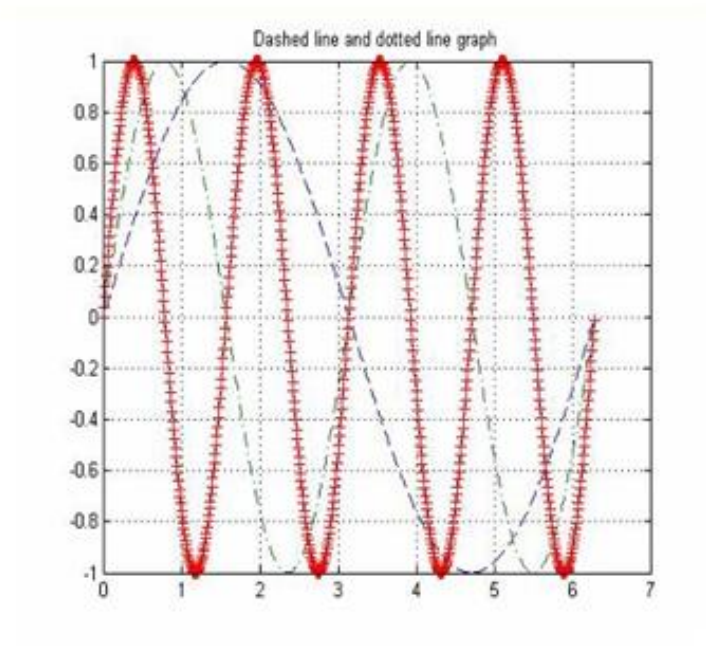

Figure 1-3
**Figure 1-3** shows multiple graphs on a single graph